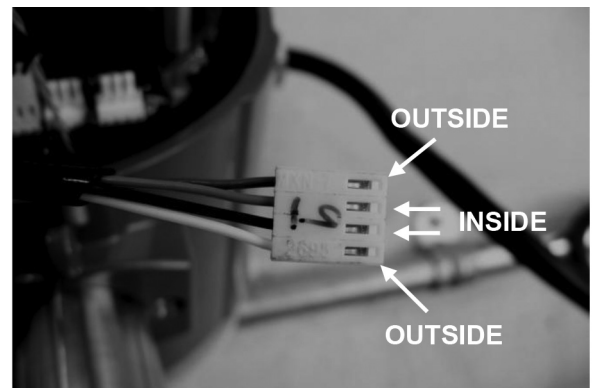

Figure 5-5. Pressure Sensor Connector
2. Using ESD precautions and hazardous area precautions, remove the electronics enclosure window cover. Disconnect the pressure sensor from the electronics stack or the remote feed through board. Measure the resistance across the outside pins of the pressure sensor connector, then across the inside pins. Refer to Figure 5-5. Both readings should be approximately 4400 ohms.
4. Go to the first level of the hidden diagnostics and record the Pe(V) and Pv(V) values and consult the factory with findings.